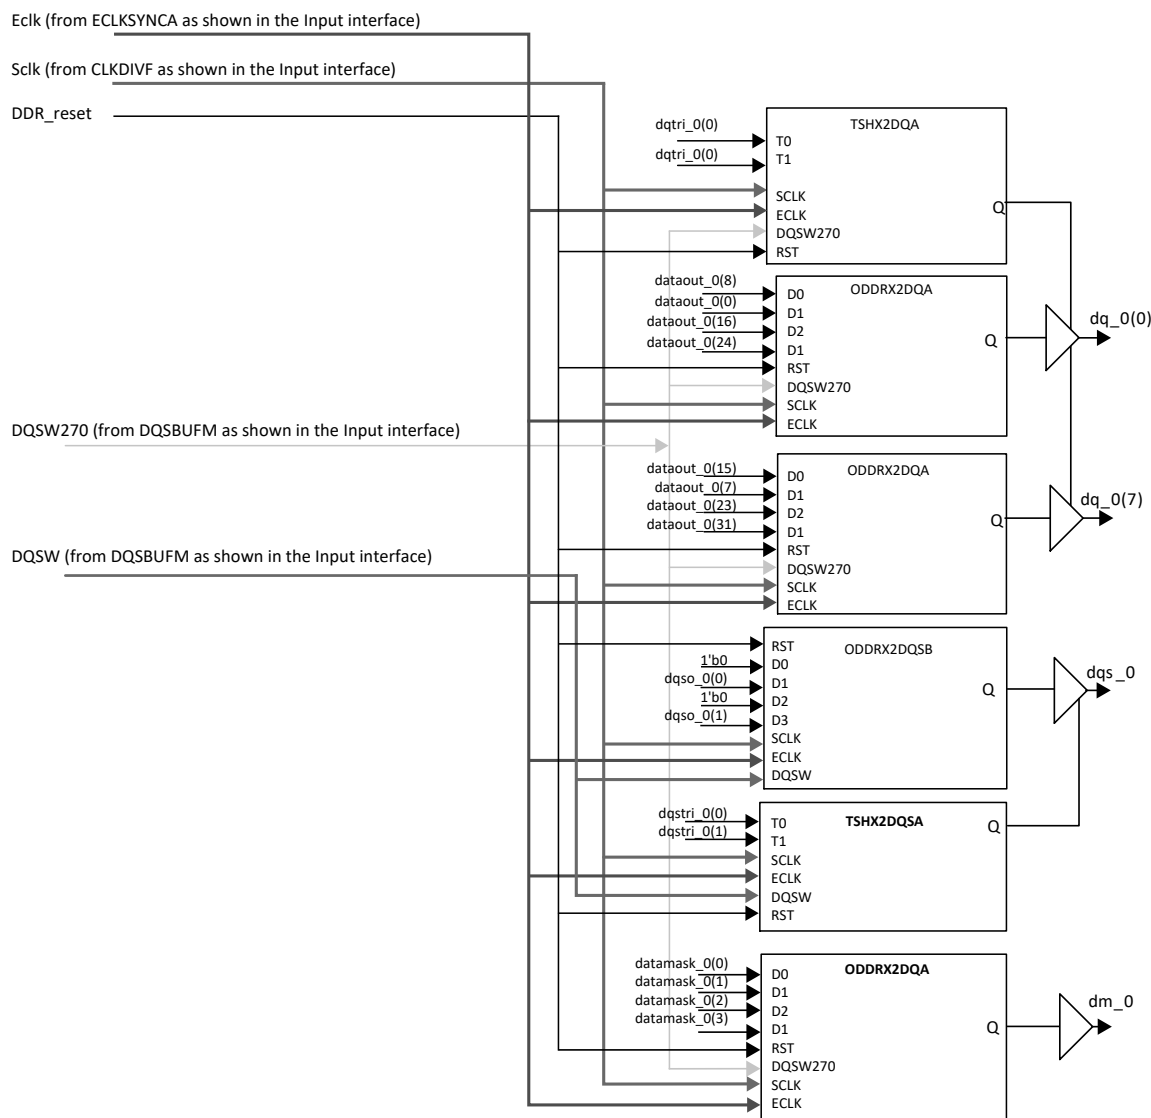

Figure 6.9. DDR2, DDR3/DDR3L, LPDDR2, and LPDDR3 Write Side (DQ, DQS, and DM)
Figure 6.9 shows the DDR2, DDR3/DDR3L, LPDDR2, and LPDDR3 memory interface write side implementation to generate DQ, DQS, and DM outputs.
- Figure 6.9 shows one tristate. The software generates one tristate element for each DQ port.